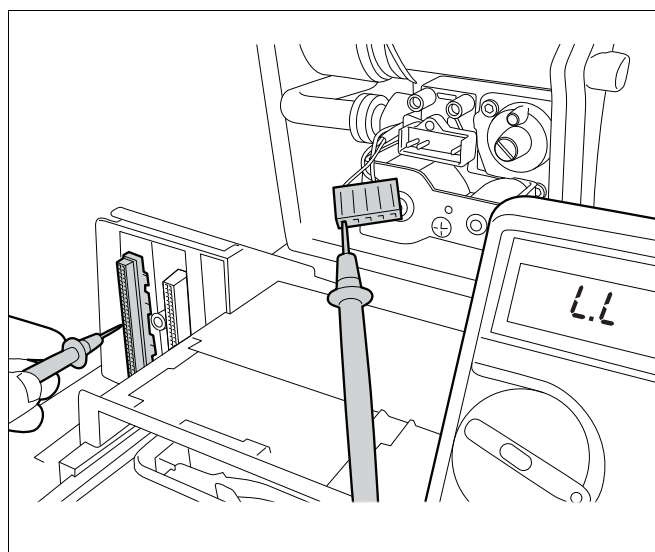
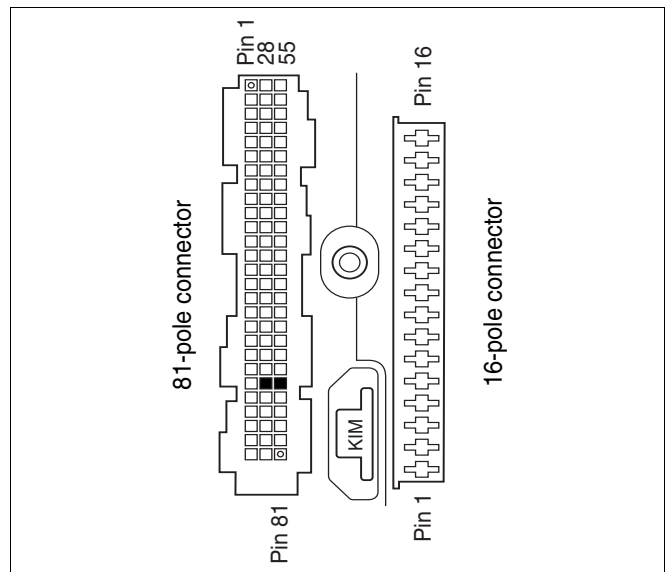

fig. 36 Testing the cable between the gas control valve and the UBA 3 installation base
fig. 37 UBA 3 installation base
- Test the resistance of the cable between the plug of the gas control valve and the UBA 3 installation base (see fig. 36, fig. 37 and circuit diagram, fig. 110 on page 126).